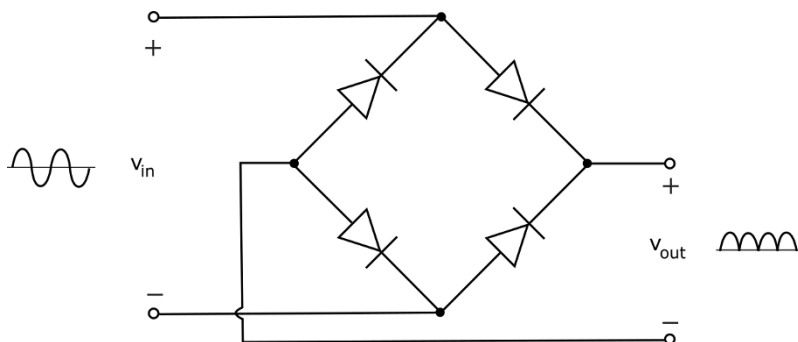

Figure 9-7: In a bridge rectifier, four diodes transform an AC voltage or current into a purely DC voltage or current.
- ✓ **Full-wave rectification:** By arranging four diodes in a circuit known as a *bridge rectifier*, you can convert both the ups and the downs (relative to 0 V) of an AC voltage into just ups (see Figure 9-7). This *full-wave rectifier* is the first stage of circuitry in a *linear power supply*, which converts AC power into a steady DC power supply.